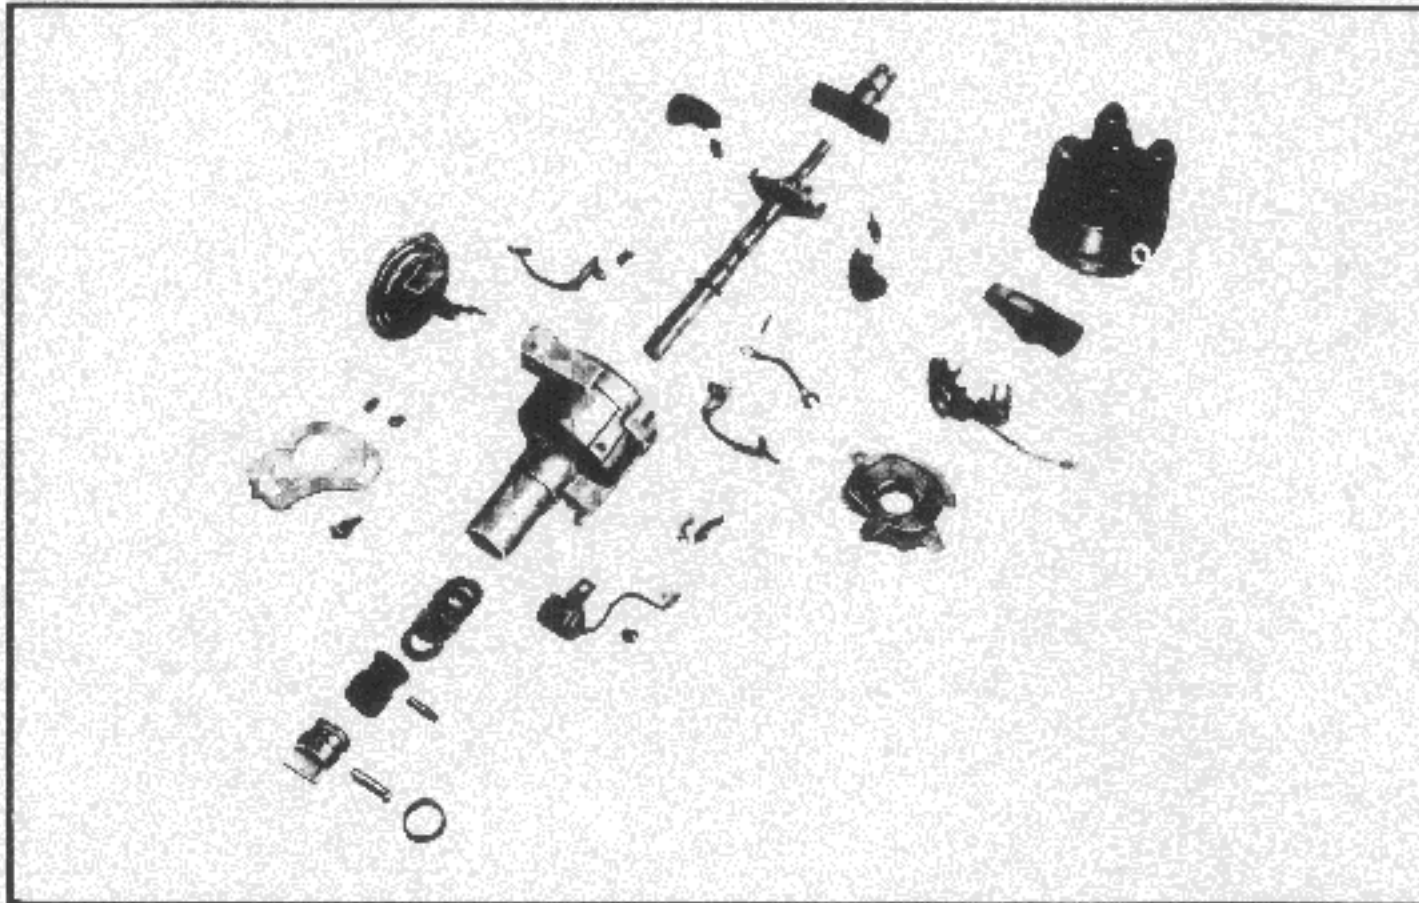

Fig. EE-105 Exploded view (D410-58, D409-54)
8. Figure EE-105 shows the exploded view.